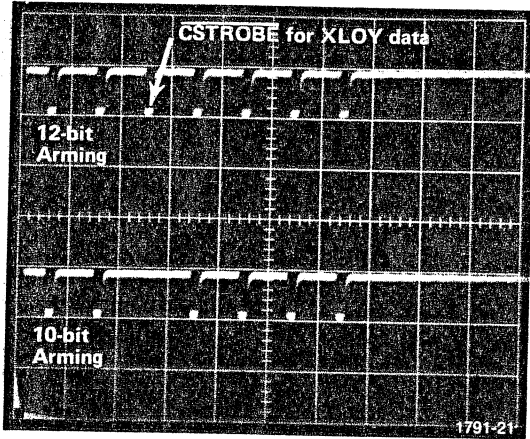

Fig. 4-3. Bit 5 verification.
2. Arm the Tablet with ESC ! 7 (12 bit). Bring the pen into presence. Seven STROBE's should appear on the oscilloscope screen. (Fig. 4-3).
3. Leave presence, then arm the tablet with ESC!G (10 bit). Bring the pen into presence. Six CSTROBE's should appear on the oscilloscope screen (Fig. 4-3). There will be a missing CSTROBE between the second and third CSTROBE.